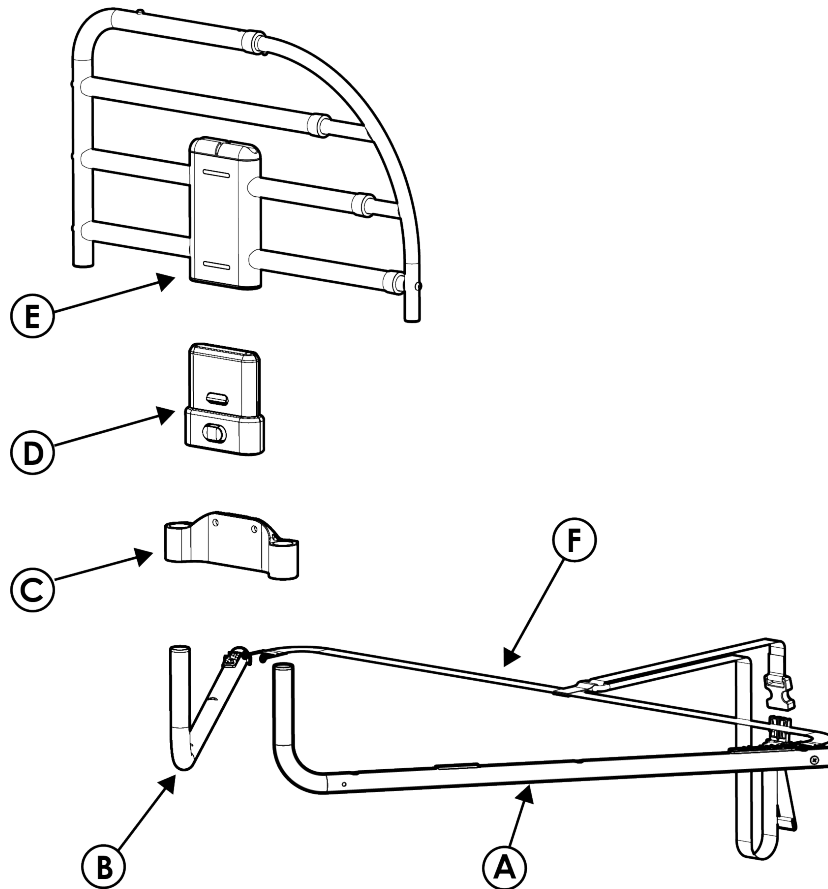

FIGURE 1
1. Remove all components from box and verify all parts are included as shown in *FIGURE 1*.